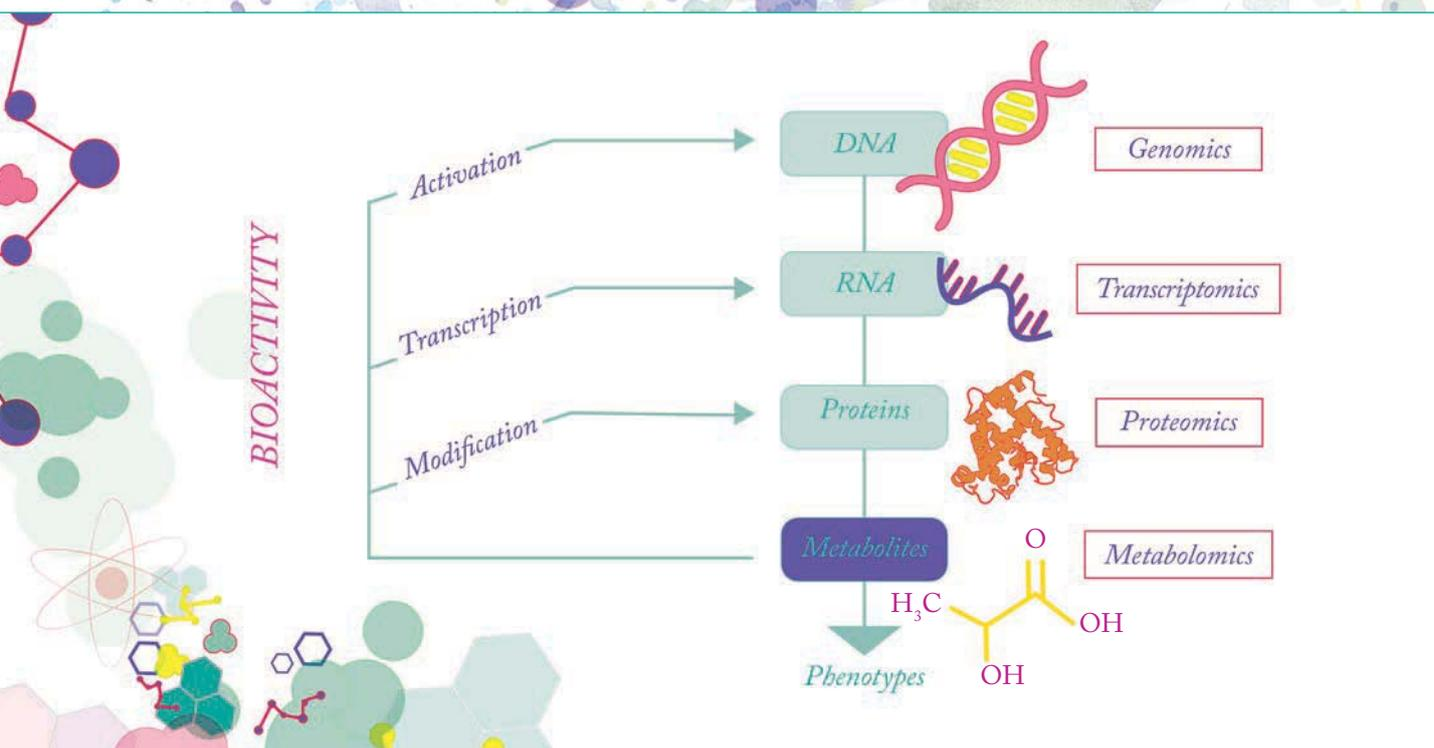

Figure 1. Metabolic activity among the different omic layers.
When taking a closer look at the involvement of metabolites in gene expression, transcription and translation control, it becomes evident that the metabolome is not simply a cellular information sink. Rather, the metabolome is the omics superglue, providing biochemical feedback across all omic layers (see Figure 1). Metabolites are essential in the control of gene expression, with several transcription factors controlled by specific molecules, including the liver X receptors, estrogen receptors and thyroid hormone receptors. In addition, as metabolic control has become better recognized (9), numerous other cellular receptors activated by metabolites have been discovered, including G-protein coupled receptors that are involved in signal transduction. Beyond these noncovalent protein–metabolite interactions, metabolites are also active substrates and products of enzymatic reactions, as well as participants in protein post-translational modifications, such as acetylation and palmitoylation. This activity even extends to metabolites shaping the metabolic environment to influence protein function, as illustrated by membrane proteins (10).